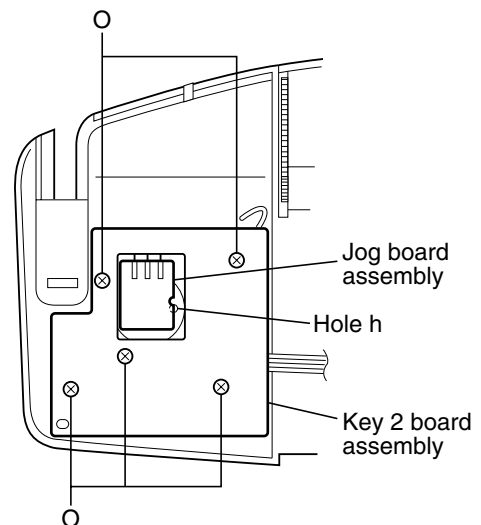
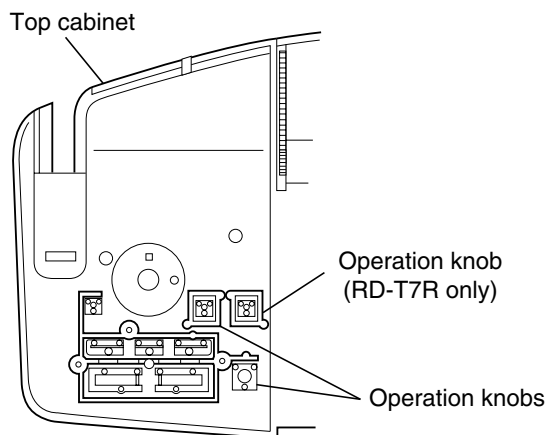

Fig.18
Fig.20
■ Removing the key 2 board assembly and jog board assembly (See Fig.18 and 19)
3. Remove the five screws "O" retaining the key 2 board assembly from the back side of the top cabinet assembly.
4. Take out the key 2 board assembly and the jog board assembly together.
[Note] Operation knobs are present below the key 2 board assembly. Be sure to install these in their correct orientations when installing the key 2 board assembly (see Fig. 20).